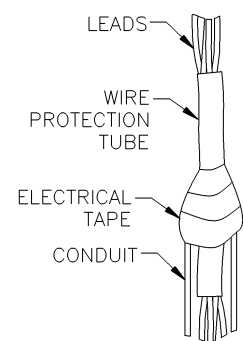

Figure 8
6. To help prevent damaging wires during installation, fit the wire protection tube provided in the Electrical Fitting Kit over wires and half way into conduit. (temporarily secure with adhesive tape) See Figure 8
7. Carefully guide free ends of Motor Leads through Discharge Riser and out through the 1" (F) NPT port.